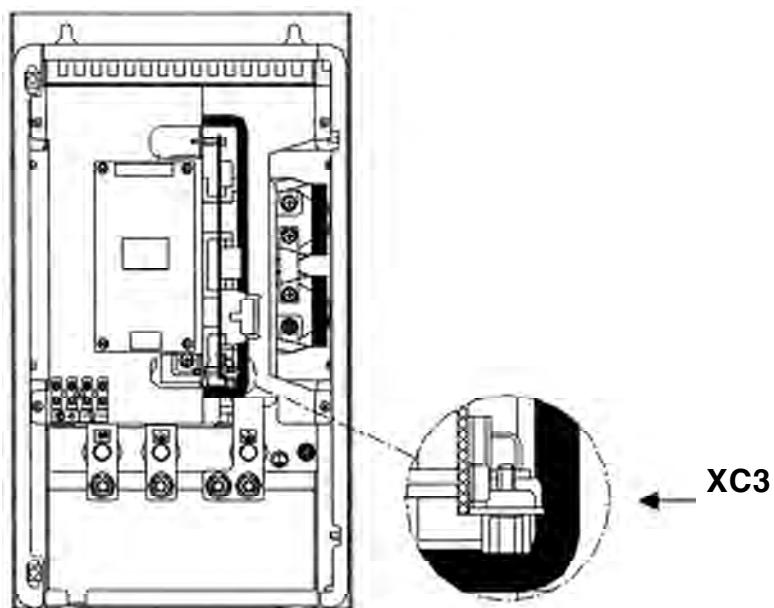

Figure 8.33 - Location of the XC3 connector
- The control connection between the CFW-09 and the braking module is made through a cable (0307.7560). One end of this cable is connected to the XC3 connector that can be found at the CRG4 board (refer to figure 8.33) in the braking module. The other end of this cable is connected to a DB9 connector that is fastened to a metallic support at the side of the control board in the CFW-09.